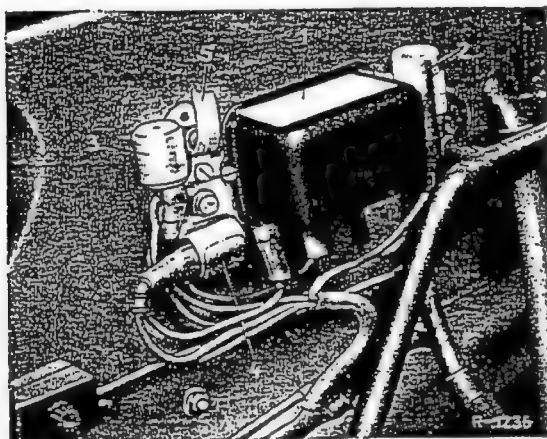

Fig. 82-20/2
7. Regulator cut-out switch with spot-welded ground straps. If a radio is installed subsequently it is necessary to suppress the standard regulator cut-out switch with two additional ground straps Part No. 180 540 03 41 (Fig. 82-20/2).